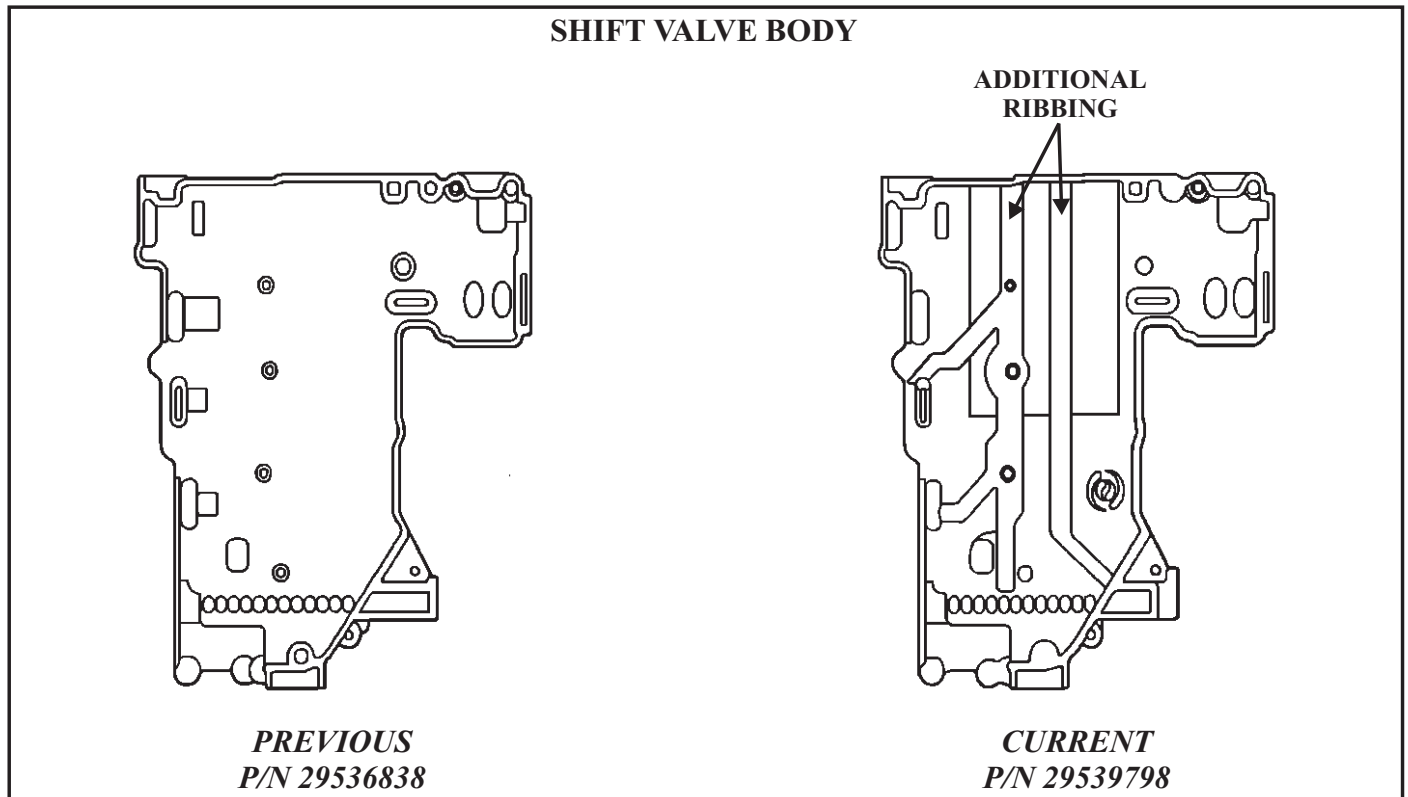

Figure 3
- (2)The Shift Valve Body has changed, (Refer to Figures 3 and 4).